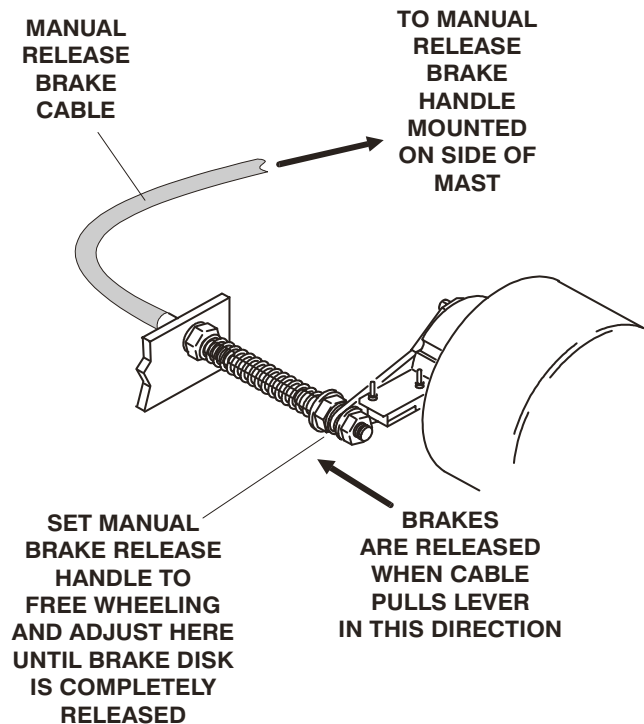

Figure 2-6. Manual Release Brake Cable Adjustment.
3. Secure the brake assembly to the drive motor using four (4) hex cap screws with washers. Torque evenly to 44 in. lbs.
6. Reconnect the manual release brake cable to the manual release lever (Y shaped lever) and adjust cable so brakes are released when manual release lever is in the down position. (See Figure 2-6.)